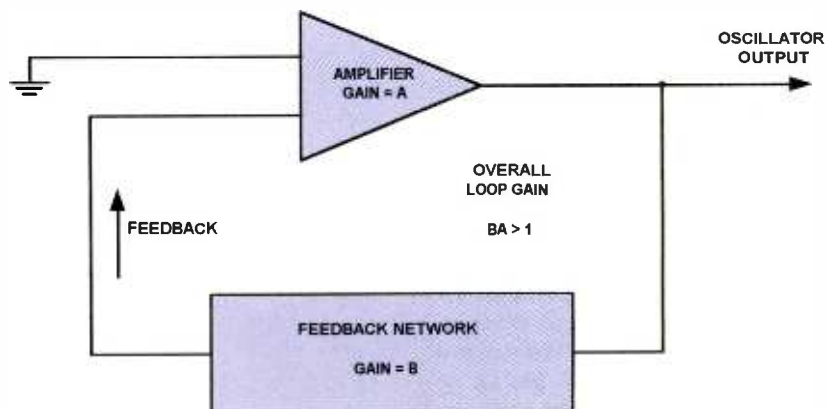

FIG 1
Fig. 1. In 1745 Dr. William Gilbert built the world's first electroscope (A) using a needle of dry wood resting on a cup suitably balanced on a support. Later the pith-ball electroscope (B) was used to demonstrate the conduction of electricity.
An oscillator is basically an amplifier and a frequency-selective feedback network (Fig. 1). When, at a particular fre-